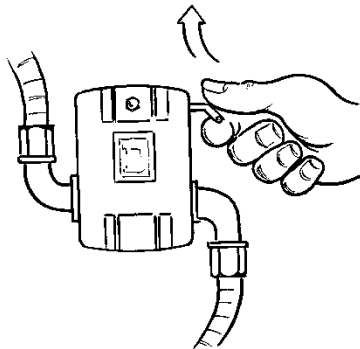

Figure CFC-1
- C. Re-Start the CFC system by holding the **CFC System Prime Lever** up (refer to Figure CFC-1) until the CFC pressure reaches approx. 20-24 psi, then release. The lever should remain in the up position. If it does not, then the CFC System is not properly primed, check the system valves to ensure they are properly opened and re-bleed the CFC pumps.